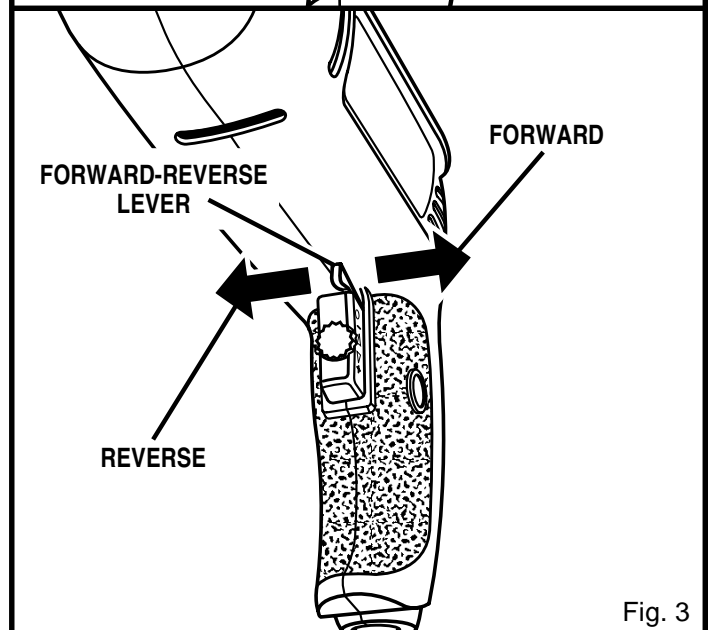

Fig. 3
See Figure 3.
- Check the direction of rotation lever for correct setting (forward or reverse). See Figure 3, Page 8.